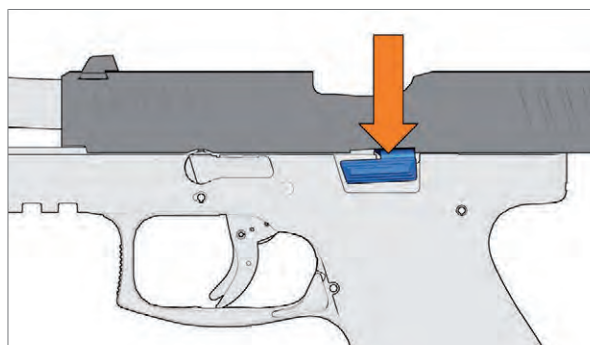

Fig. 17: Press slide release downwards
- › Press slide release downwards (*Fig. 17*). The slide snaps forwards.